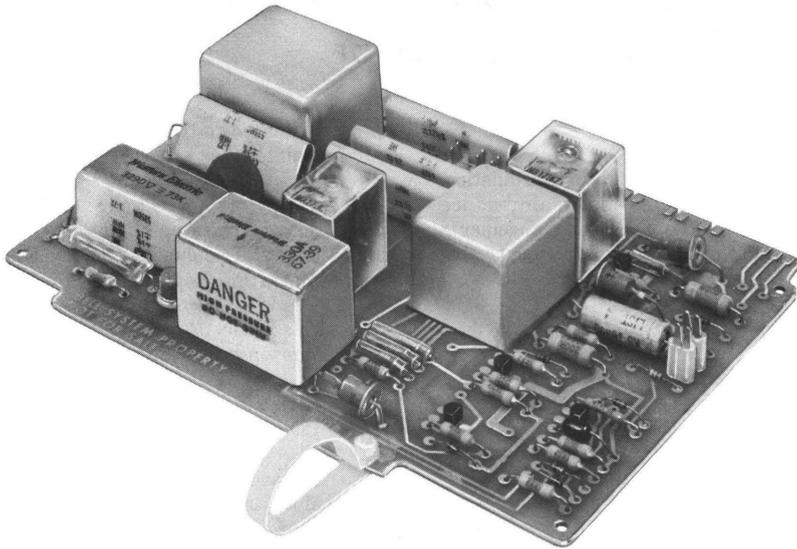

Fig. 1—120C Interconnecting Unit
- Rate the 120B IU MD, now replaced by the 120C (Fig. 1)
- Unit, Interconnecting, ♦120C♦ —one per PCA STP or C2F (Fig. 1).